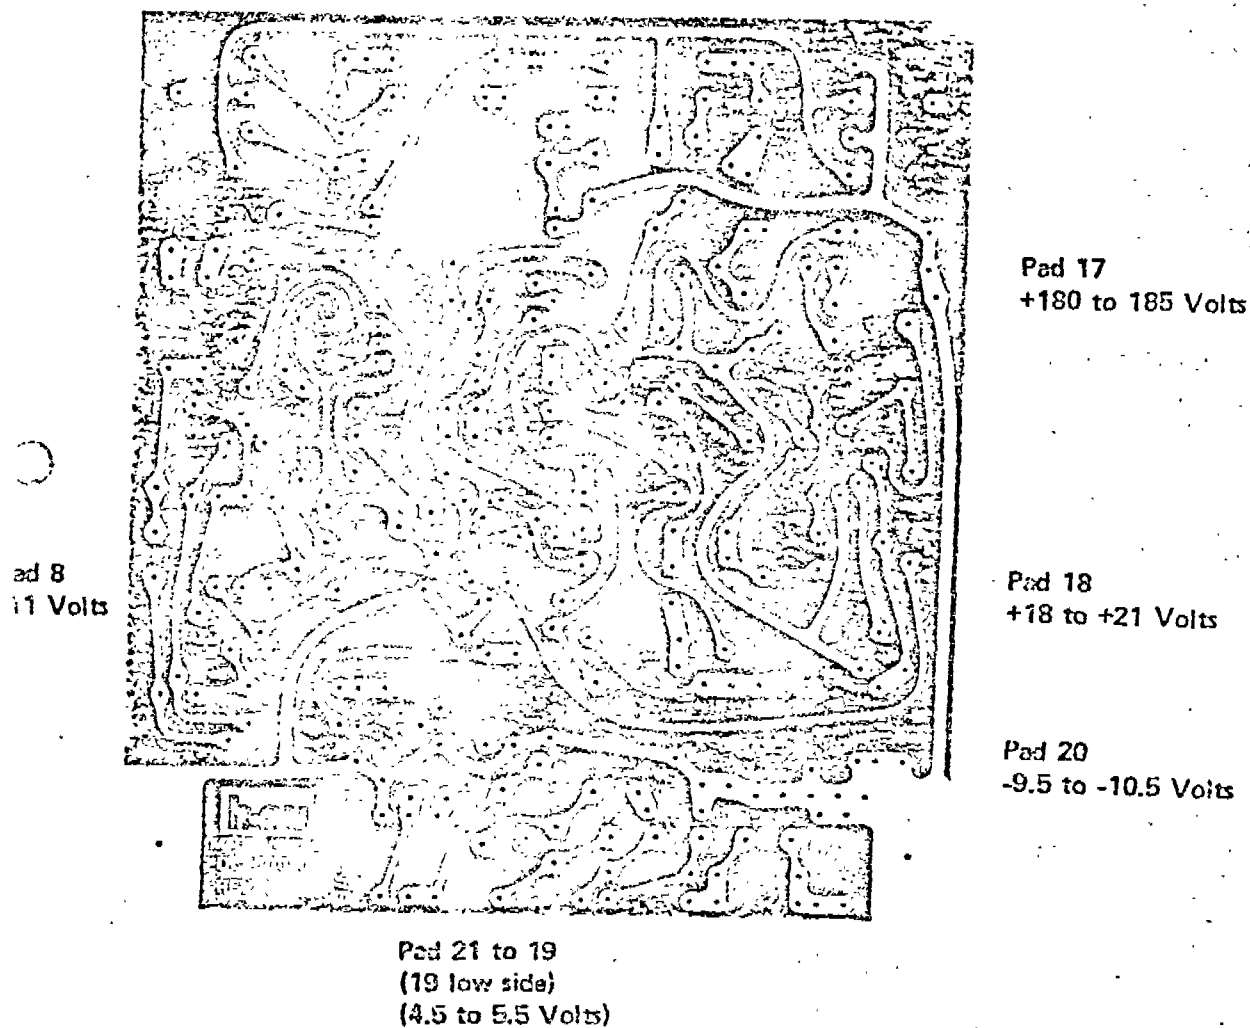

Figure 11. Power Supply PC Board.
- (1) Check power supply voltages per Figure 11. If any voltage is out of specification, consult the factory.
- (1) Check high voltage power supply (see Figure 11).
- (2) Open end of probe, remove lamp and check high voltage on lamp contact ring.
- (3) If high voltage is present at all above points, light source has most likely failed. Consult the factory.
- D. Check power supply 180 V output. See Figure 11.
- E. Check for proper fan operation. Check fan voltage. See Figure 11.
- A. Fan operating improperly. Check fan voltage. See Figure 11.